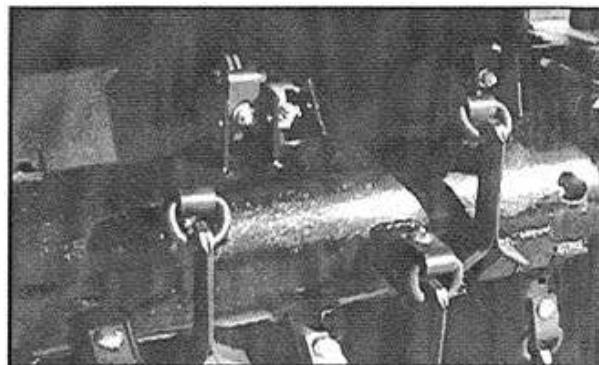

Figure 41. Flail Replacement
6. Replace with new flails and and mounting hardware (see Figure 41).